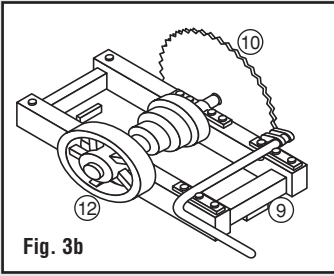

Fig. 3b
- Glue Circular Saw Blade (10) and Drive Wheel (12) to Husk Frame (9) (Fig. 3b).